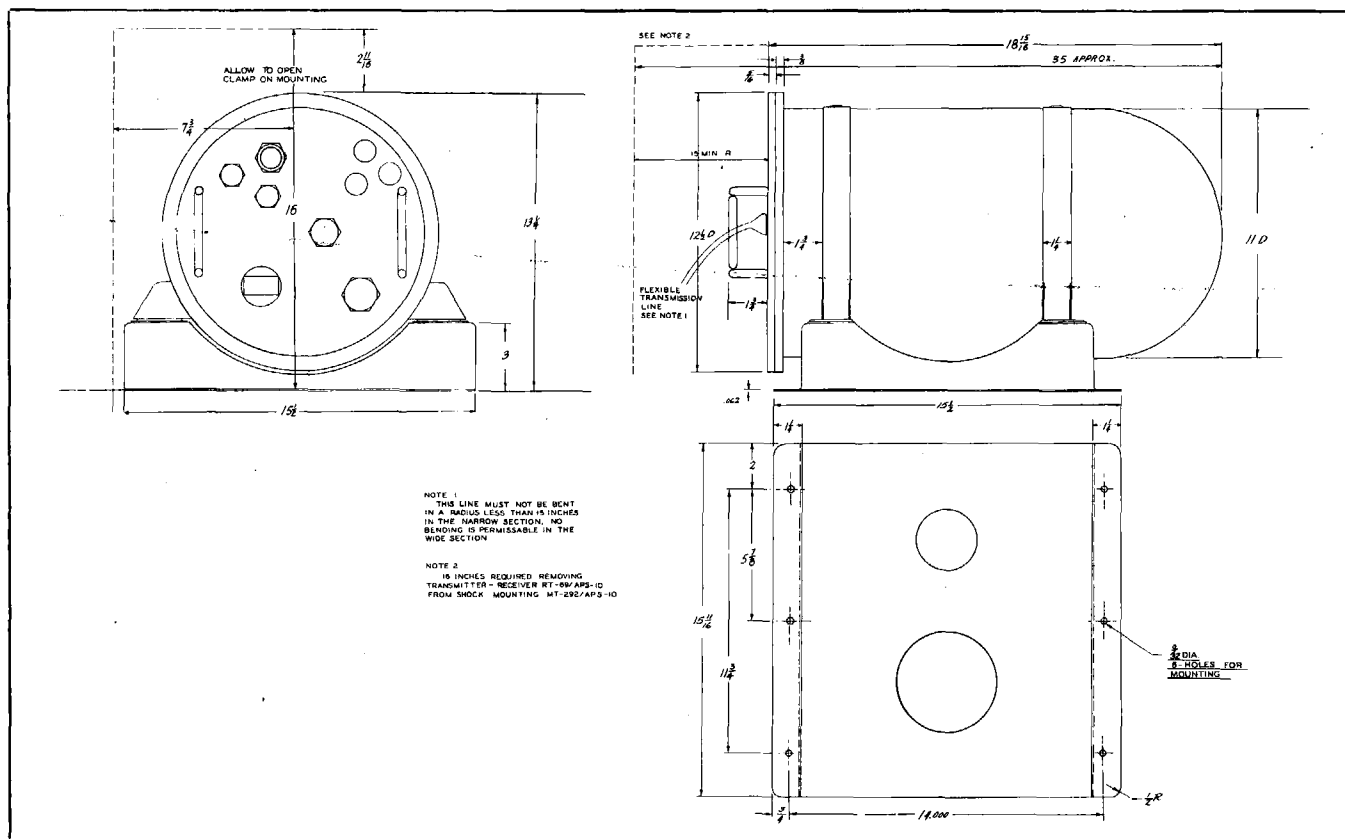

Figure 2-9. Transmitter-Receiver RT-69/APS-10—Outline Dimensions
(3) TRANSMITTER-RECEIVER RT-69/APS-10. Mount the transmitter-receiver (see figure 2-9) in a location near the antenna so that the connecting cables will be as short as possible. Mounting dimensions are given on figure 5-2. Bolt Mounting MT-292/APS-10 to a solid structure in the plane, making certain that the base is horizontal in normal flight attitude, since the mounting is most effective in this position.